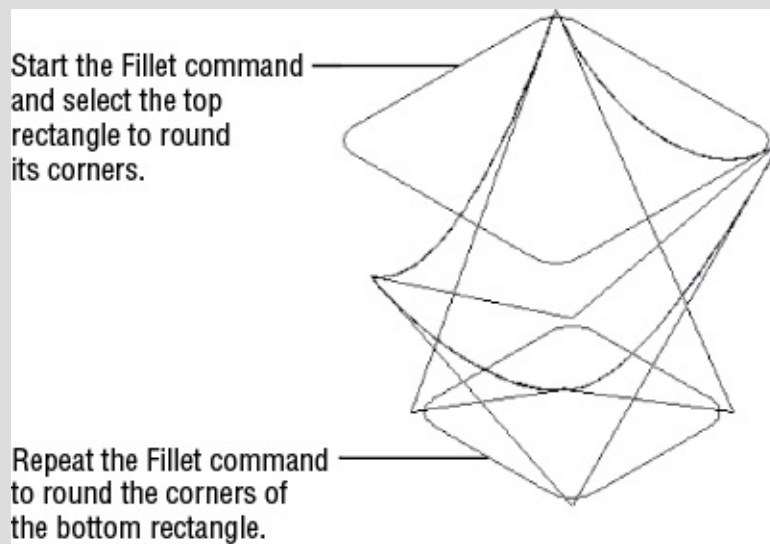

FIGURE 21.36 Round the corners of the rectangles with the Fillet command.
as shown at the top of Figure 21.36. The polyline corners become rounded.
7. Enter **P↵** to use the Polyline option, and then click the bottom rectangle, as shown at the bottom of Figure 21.36. Now both polylines have rounded corners.